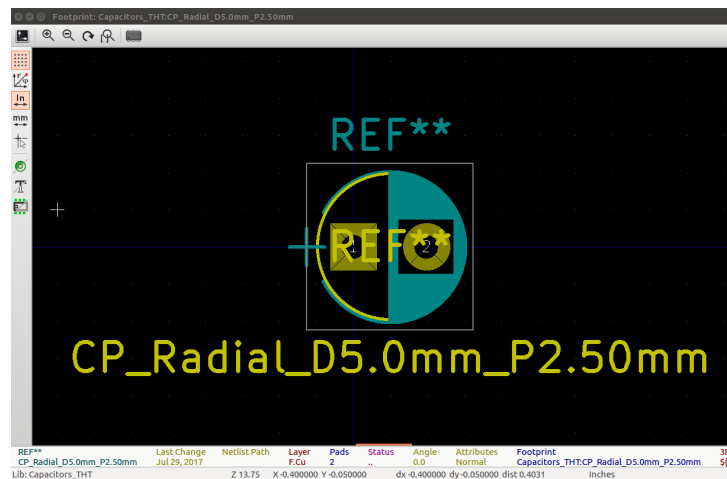
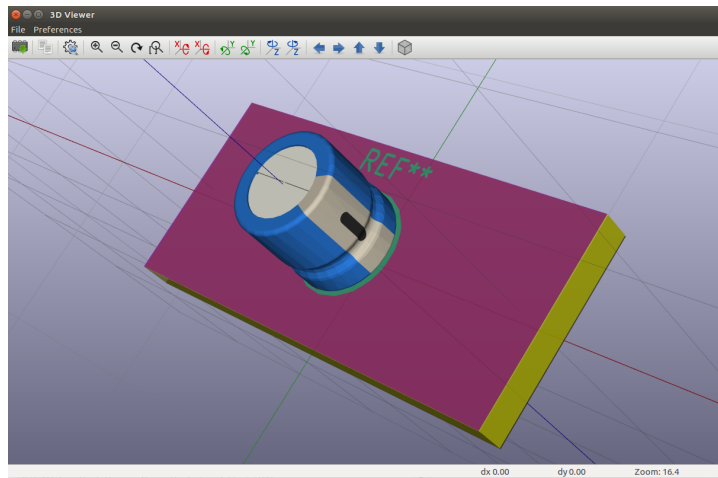

Figure 16.6: Footprint CP\_Radial\_D5.0mm\_P2.50mm's view in 2D.
Figure 16.7: 3D view of the footprint
- To view a footprint in 2D, select the component for which you wish to view the available footprints, then select the library from left-most pane and now from the right pane and click on the desired footprint and click on **View selected footprint** from the menu bar. Let us view a footprint for C1 from the *Capacitors.THT* footprint library. Choose C1 from the middle pane as shown, click on *Capacitors.THT* in the left-most pane and select the *View selected footprint* tool. On clicking the **View selected footprint** tool, the Footprint window with the view in 2D will be displayed. 2D view of the footprint *CP\_Radial\_D5.0mm\_P2.50mm* is shown in Fig. 16.6.
- Click on the 3D Display icon in the Footprint window, as shown in Fig. 16.6. A top view of the selected footprint in 3D is obtained. Click on the footprint and rotate it using the computer mouse to get 3D views from various angles. One such view of the footprint in 3D is shown in Fig. 16.7.